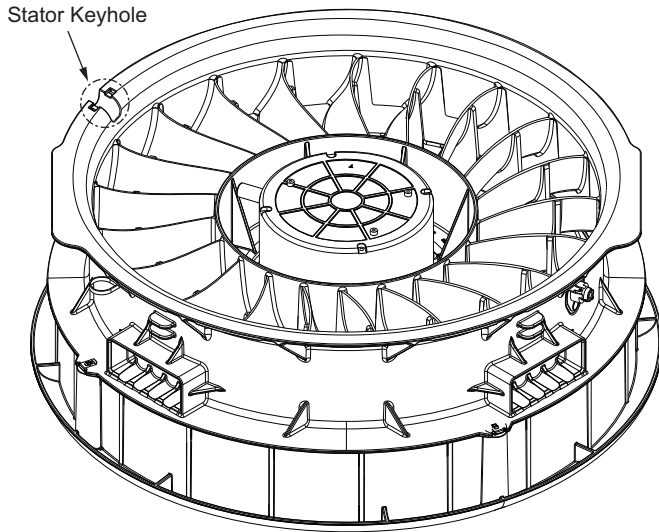

Fig. 46 — Stator Keyhole Location
3. Fit motor wire harness into keyhole feature on the side of the stator and pull wire harness out prior to fixing the motor to the stator. See Fig. 46.